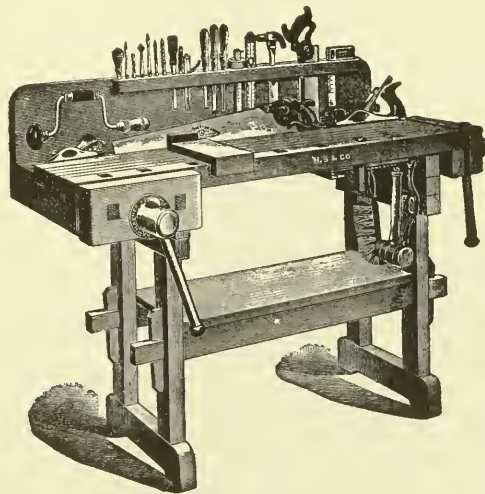

Fig. 213
In many the back part of the bench-top is an inch or so lower than the front, with a strip at the back edge and sometimes at each end, forming a tray (Fig. 213), where tools, small pieces of work, etc., can remain while in use, keeping the front part clear for actual operations. The front part of the top should be of hard wood and is best built of selected strips glued and bolted together. The practical workman usually prefers a plain simple bench. There is no danger of a bench being too strong and solid,
82. The Bench-hook (Figs. 79 and 124), holds small work firmly for sawing, planing, etc., and also saves marring the bench-top. It is placed on the bench as in Fig. 213, or one of the cleats can be screwed in the vise. For its use, see pages 27 and 40..